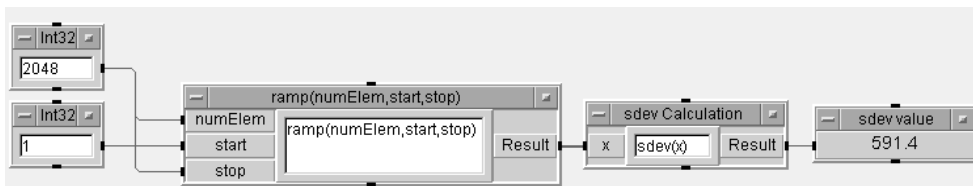

Figure 5.5. Calculating the standard deviation of a Ramp function
14. Connect the Integer and ramp... objects as shown in Figure 5.5. Run this program.